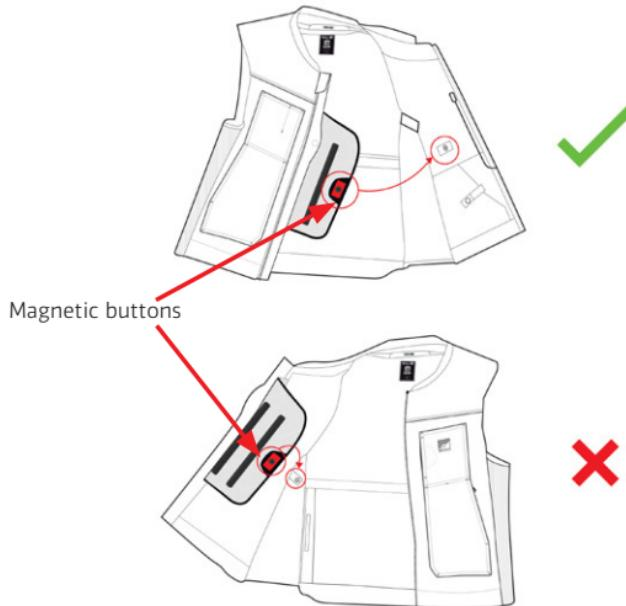

Figure 9
1. Put on the System and fix the Airbag present in the chest area connecting the Chest Magnetic Button (9) with the Left Magnetic Button(11) present on the vest (Figure 9).
2. Close the Activation Zip (1) from the bottom to the top and wait for the System to switch on
3. The correct closure of the Activation Zip (1) and the switching on of the System are signaled by the switching on of the LED Display (2) and by the presence of a vibration in the same area
4. Once the System is switched on, check the LED Display (2) to verify that the System has started correctly (see Section 13 "LED Display Indications"). In particular, the user must verify that, after the System start-up, no System fault is present.